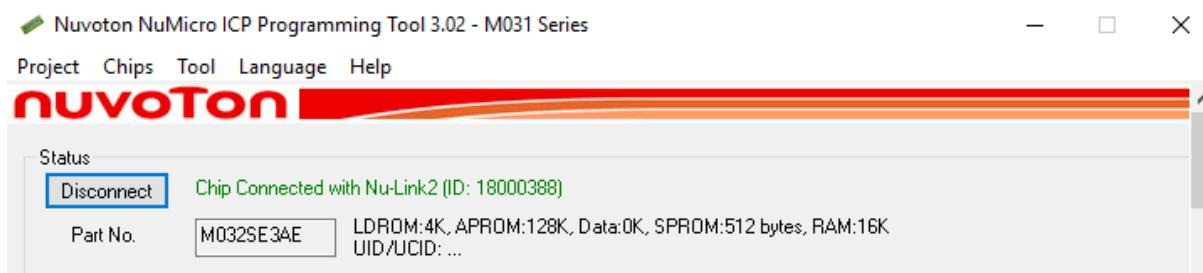

Figure 5.2-5 Nu-Link2-Pro Connected with a Target Chip Detected
SWD port will be detected. Figure 5.2-5 shows that the ICP Tool has been connected with the Nu-Link2-Pro and a target chip is detected. At this time, the user can start programming the target chip.
- (10) Click the **Disconnect** button if programming is not needed (as shown in Figure 5.2-5). Or click the **Stop Check** button to disconnect the ICP Tool with the Nu-Link2-Pro and leave the Nu-Link2-Pro unused (as shown in Figure 5.2-6). As such, the Nu-Link2-Pro can be connected with another tool.